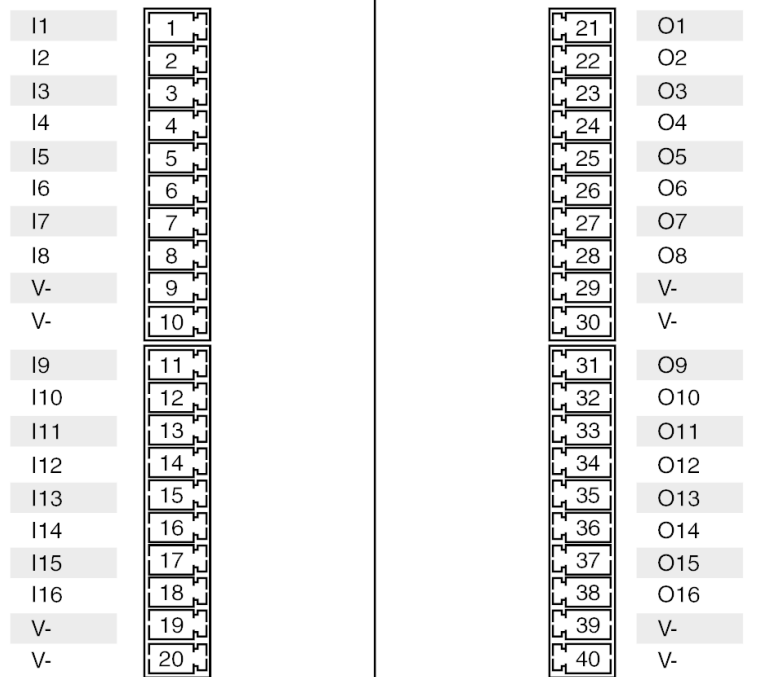
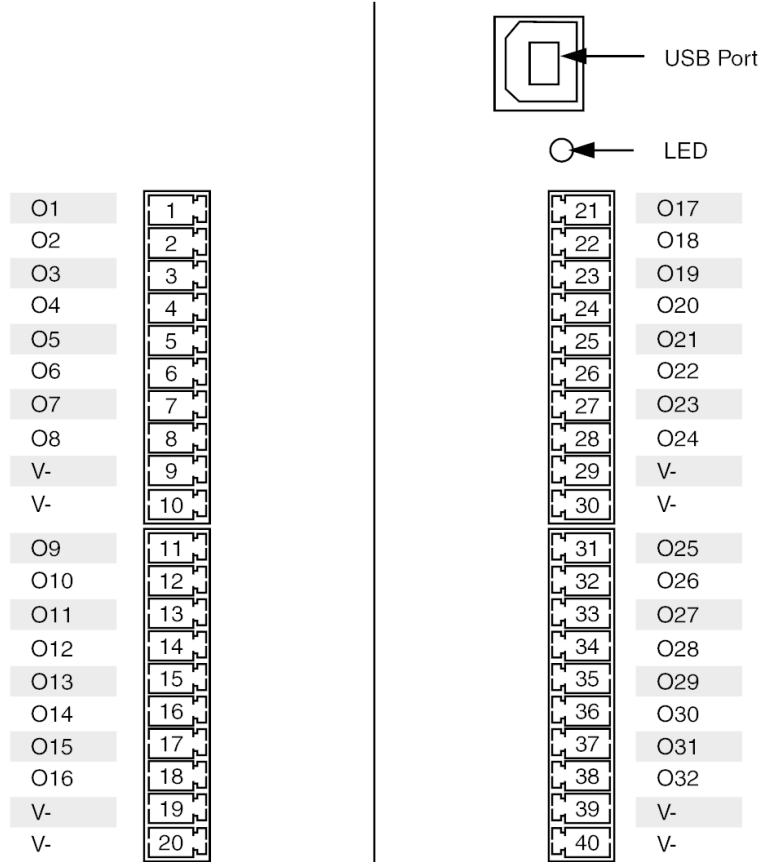

Figure 3 U2121A Pin Assignment
Figure 5 U2123A Pin Assignment
This chapter will discuss more on the terminal blocks connection and application examples. The terminal blocks provided with the products are the pluggable type (3.5 mm pitch) terminal blocks which greatly ease wiring effort and installation. Each terminal block has 10 connection points inclusive of eight IO and two connection points allocated for external GND (V-) or return path. In other words, every terminal block is defined as a single channel with eight IO terminal connections. See Figure 3 - Figure 5.
- **U2121A** 16- Terminal Digital Input & 16- Terminal Digital Output (Figure 3)
- **U2123A** 32- Terminal Digital Output (Figure 5)